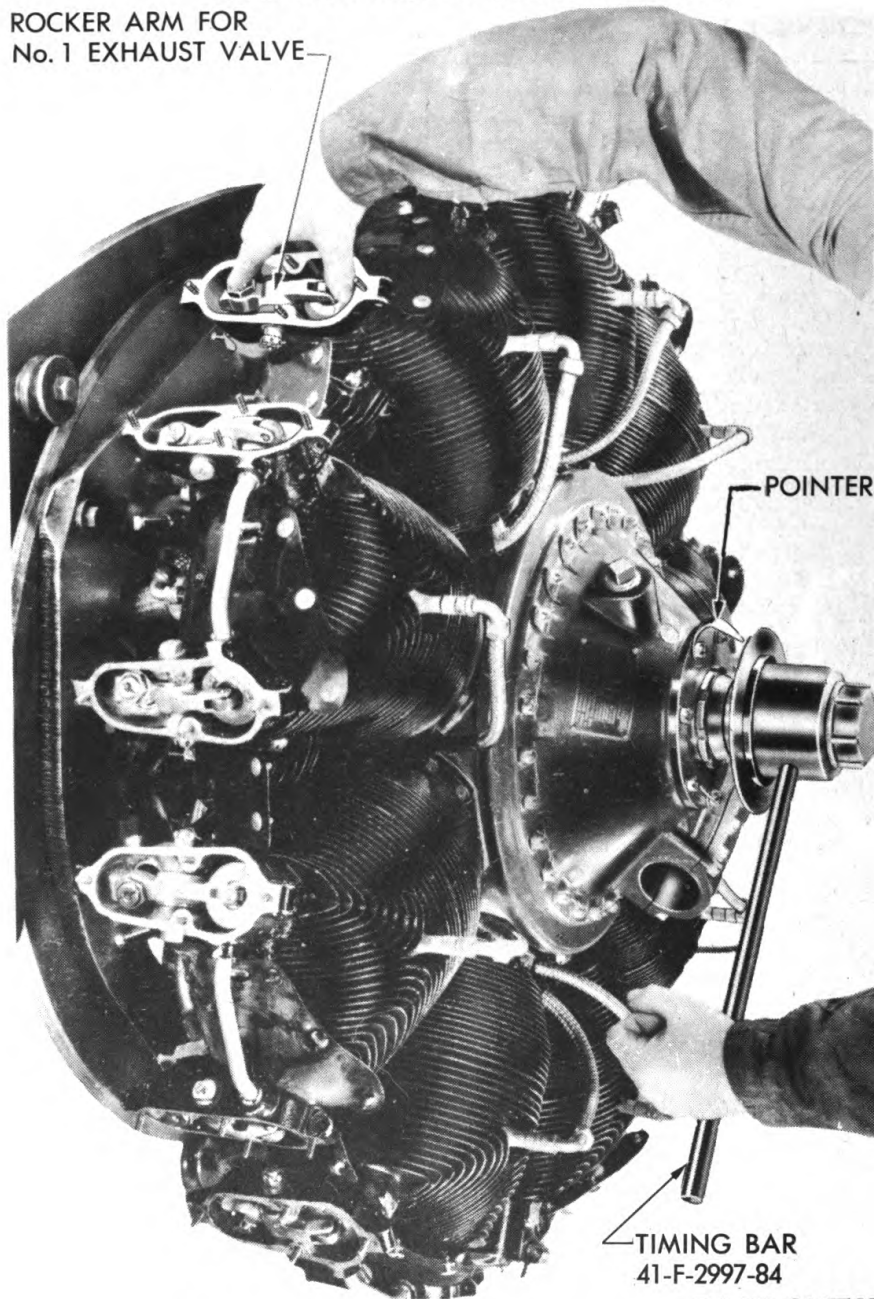
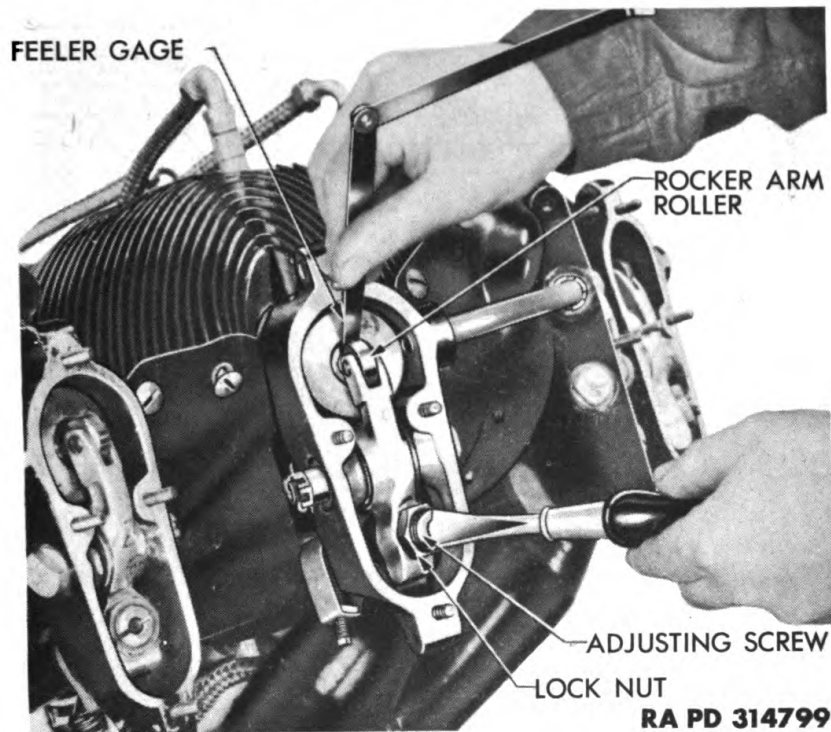
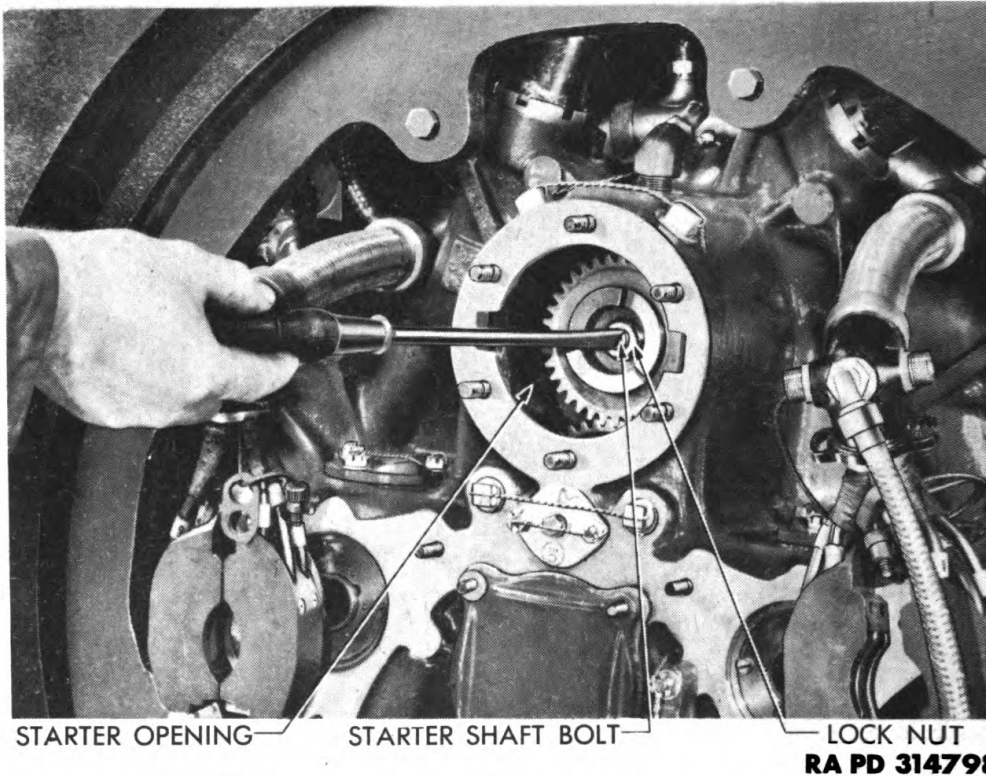

Figure 238 – Checking Valve Action
Figure 239 – Adjusting Valve Clearance Using Gage 41-G-412-75
Figure 240 – Disengaging Timing Serrations
(1) **ADJUST NO. 1 CYLINDER VALVE CLEARANCE.** Turn crankshaft in a counterclockwise direction until the No. 9 intake valve just begins to open (fig. 238). Tap push rod ends of both No. 1 cylinder rocker arms with fiber mallet. Adjust valve tappet clearance between the rocker arm roller and valve stem for the No. 1 cylinder intake and exhaust valves by turning rocker arm adjusting screw in or out until a clearance of 0.070 inch is obtained. Measure clearance with feeler gage (fig. 239). Wash grease from hands, and from rocker arm rollers with dry-cleaning solvent. Press rocker arm adjusting
screw for the No. 1 cylinder intake valve down, with the fingers of your right hand, and turn rocker arm roller with thumb. At the same time, turn crankshaft in counterclockwise direction until roller begins to bind (fig. 238). Loosen lock nut at rear end of starter shaft bolt. Insert screwdriver in bolt slot to keep bolt from turning. Push bolt forward to disengage timing serrations at front end of bolt from serrations in starter gear (fig. 240). While holding bolt in this forward position, turn crankshaft until timing disk pointer registers eight degrees before top dead center on timing disk. Permit bolt to slip back and reengage timing serrations with serrations on starter gear. Tighten bolt lock nut securely; then back off nut $\frac{1}{2}$ turn. With screwdriver in bolt slot, attempt to rotate starter shaft bolt to make sure bolt serrations are meshed with starter gear serrations. Retighten lock nut.